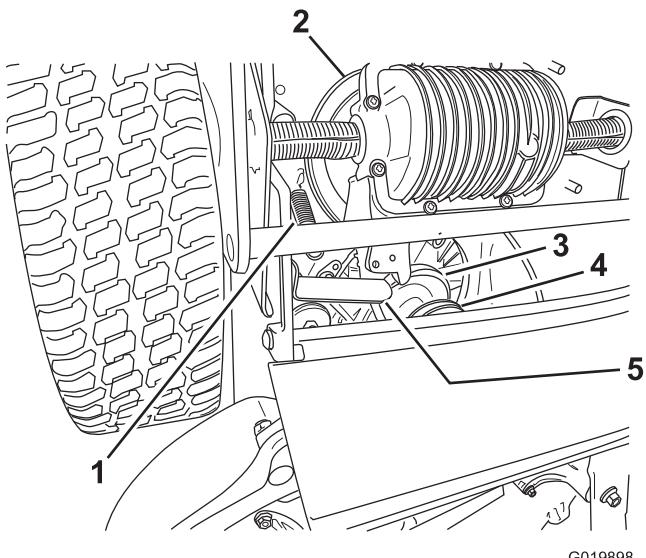

Figure 37
- Avancez la patte (Figure 37).